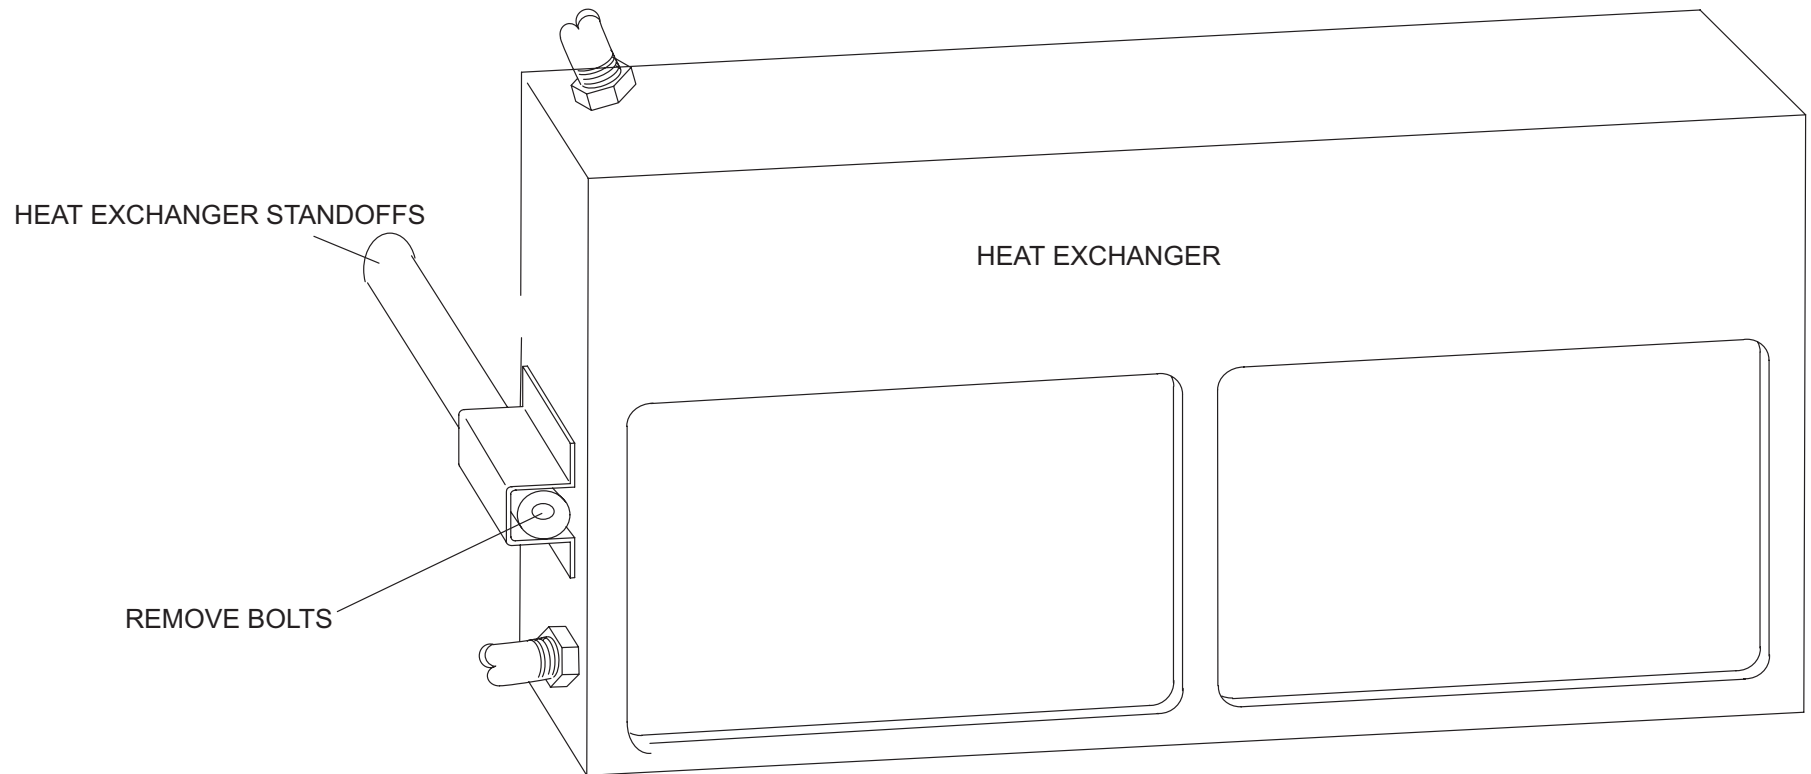

FIGURE 253 HEAT EXCHANGER MOUNTING HARDWARE
17. Remove the two bolts on the heat exchanger supports. Slide the heat exchanger out and away from the gantry. See Figure 253.
32. Position the Heat Exchanger on standoffs and push it back into position. Place the Cables behind the Heat Exchanger. Secure with the two bolts. Refer to Figure 253.